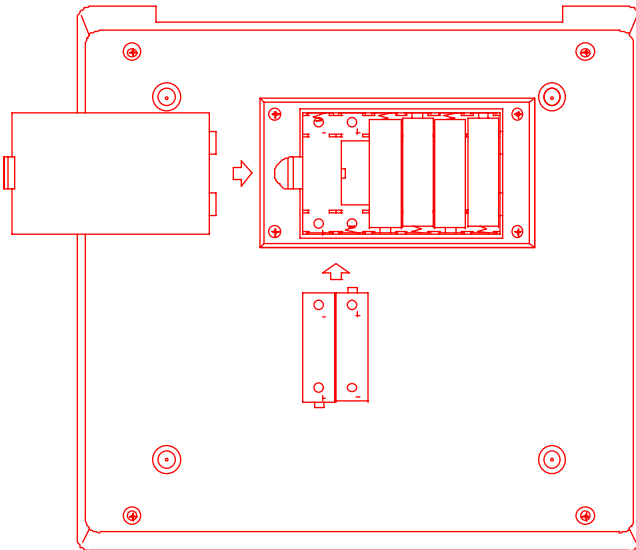

Figure 4
2. To replace the batteries, position the meter so that the bottom part of the meter is facing up . (Refer to figure 4.) Lift up the battery cover to expose the battery compartment.